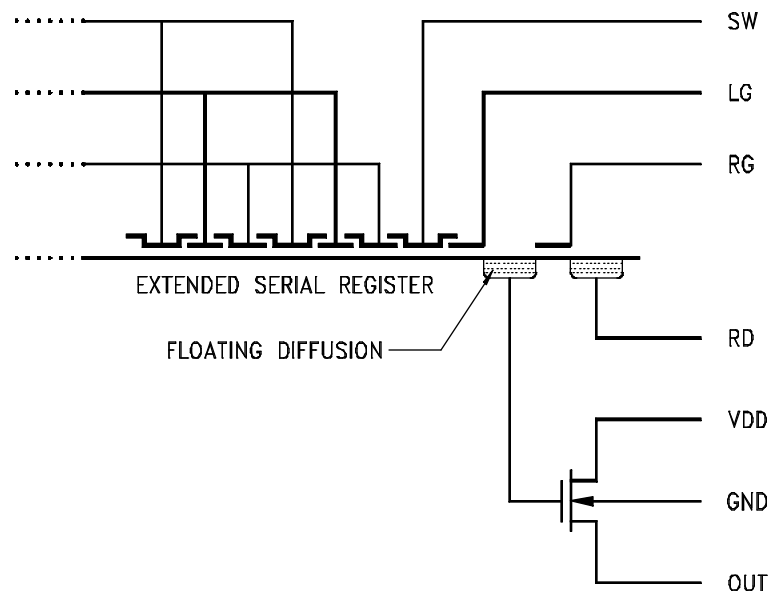

FIGURE 1 Output Structure
The imager has a single output MOSFET that is located at the end of the extended serial register. Figure 1 presents a schematic diagram of the output configuration. The output amplifier reset gate (RG), reset drain (RD), summing well (SW), and last gate (LG) are brought out to individual pins. This allows the operational voltages for the output to be optimized.